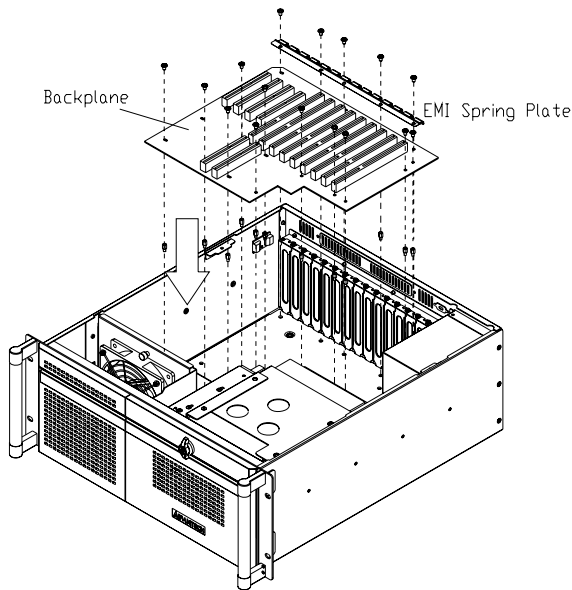

Figure 2.3: Installing a backplane
3. Refer to Figure 2.3, carefully place the backplane and the EMI spring plate into the ACP-4320BP chassis. For the bare ACP-4320BP chassis, the EMI spring plate is stored in the accessory box.